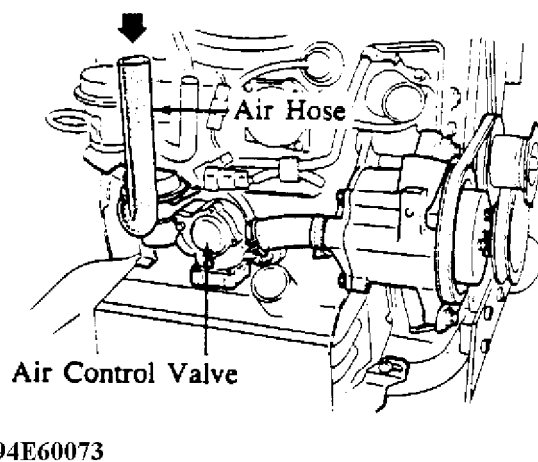

Fig. 7: Disconnecting Air Hose Between Air Cleaner and ACV
2. Disconnect the air hose between the air cleaner and the air control valve. See Fig. 7.